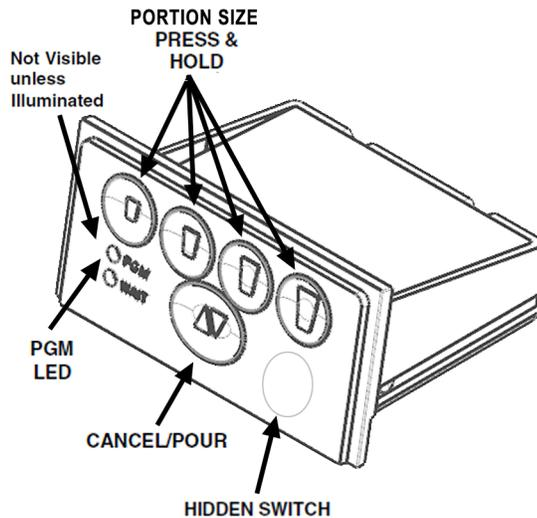

Figure 1
**Location of program mode switch and LED (See Fig. 1):** The UF-1 Portion Control modules use a “hidden” program switch to enter the program mode. It is located to the right of the “Cancel/Pour” switch directly below the “XL” switch. The “PGM” LED is located to the left of the “Cancel/Pour” switch directly below the “S” switch.